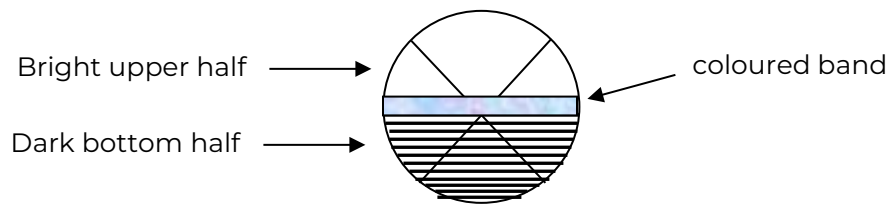

Figure 4.4. Chromatic aberration
7. If the borderline between the light and dark areas of the visible field appears as a coloured band (see Figure 4.4), **chromatic aberration** (colour dispersion) is said to have occurred, and you must **achromatize** the borderline. Achromatization can be achieved by rotating the compensator dial located just below the eyepiece.